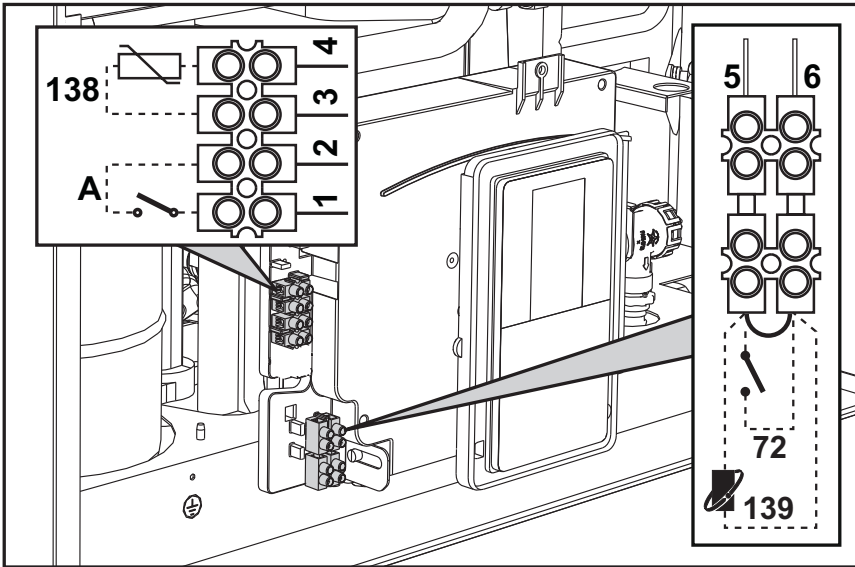

fig. 28
After removing the front panel (*** 'Opening the front panel' on page 309 ***) it is possible to access the terminal blocks (M) and the fuse (F) following the directions given below. **The terminals indicated in fig. 28 must be with voltage-free contacts (not 230V).** The arrangement of the terminals for the various connections is also given in the wiring diagram in fig. 51.
ON OFF switch configuration (A fig. 28)